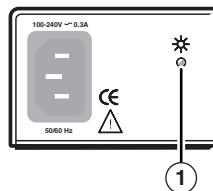

Figure 2-9 — Rear panel power connector
- ① **Power LED** — Indicates that AC power is applied (also on the rear panel, figure 2-9).